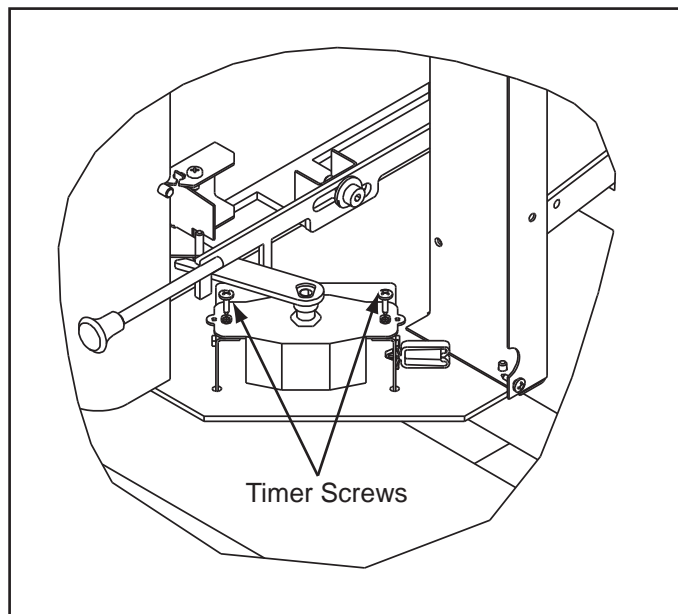

Figure 38.1
2. Remove the 2 screws holding the timer assembly in place and remove the timer. **Figure 38.1.**